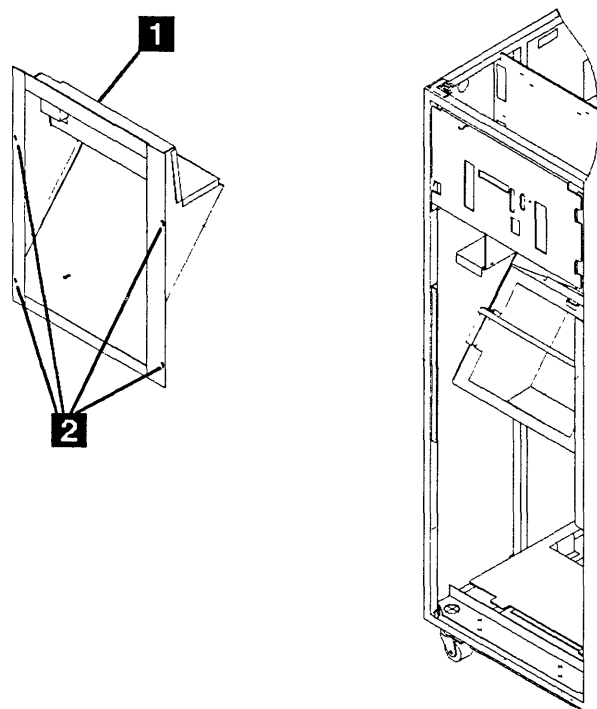

Figure 5-164. Air Duct
7. Refer to Figure 5-164. Working from the front side, do the following:
5. Refer to Figure 5-164 on page 5-164, then at the front side, re-install the air duct as follow :